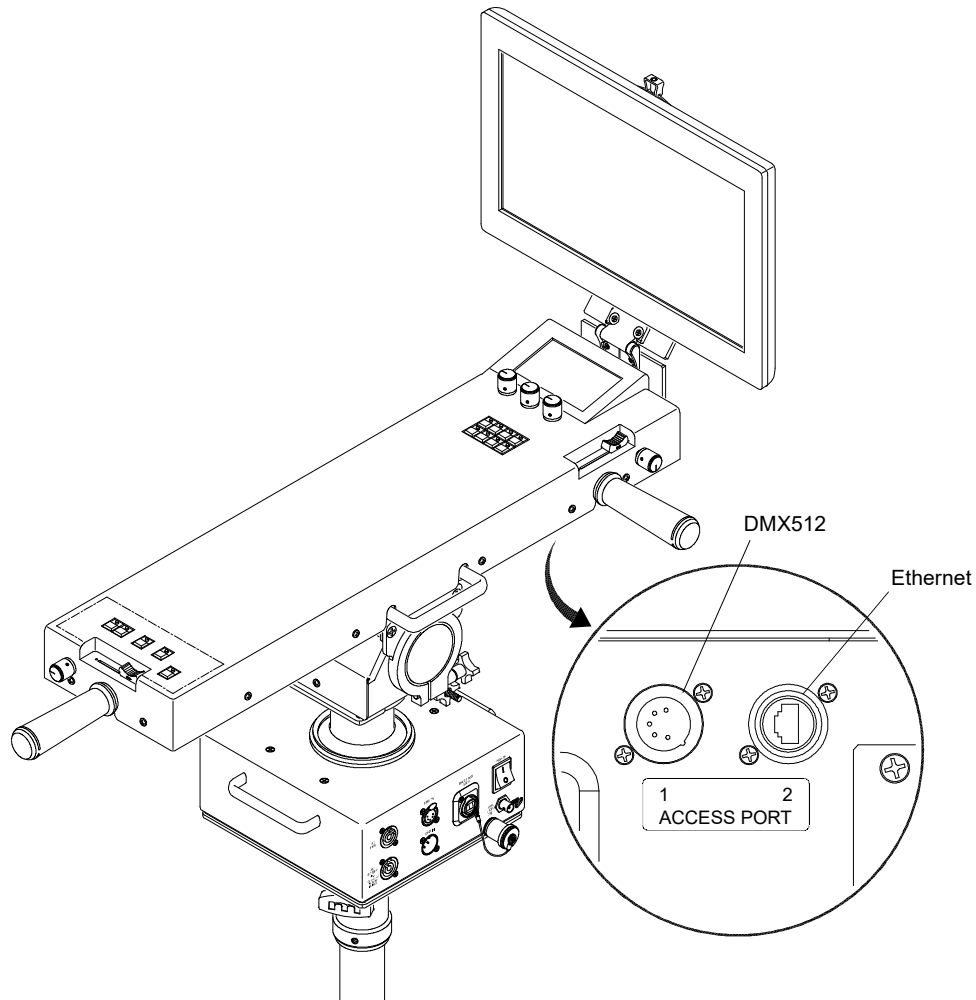

Figure 1-2: Access Ports
GroundControl software is updated using the two access ports (**Figure 1-2**) available on the underside of the Control Arm:
- Step 2. Connect Ethernet cable between computer and Control Arm (Controller) Access Port 2 (**Figure 1-2**).
- Step 2. Connect XLR cable between a Node+, Supernode or S400 device and the Control Arm Access Port 1 (**Figure 1-2**).